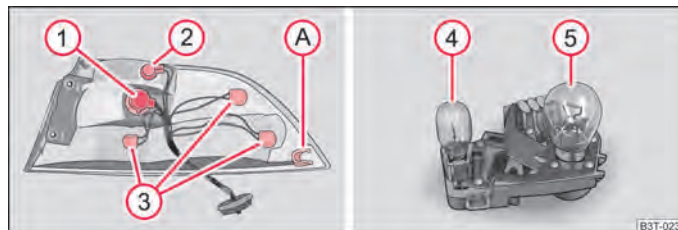

Fig. 208 Outer part of the rear light unit: Bulbs/inner part of the rear light unit: Lamps
- To re-insert the rear light unit, first of all guide it with the support (A) ⇒ fig. 208 towards the front onto a bolt on the bodywork.
- To change a bulb of the reversing light (4) ⇒ fig. 208, pull the defective bulb out of the fixture and insert a new one.
- To change the bulb of the rear fog light (5) ⇒ fig. 208, turn the defective bulb to the left up to the stop and take it out.
Fitting position of the bulbs in the outer rear light unit ⇒ fig. 208 - left.
Fitting position of the bulbs in the inner rear light unit ⇒ fig. 208 - right.